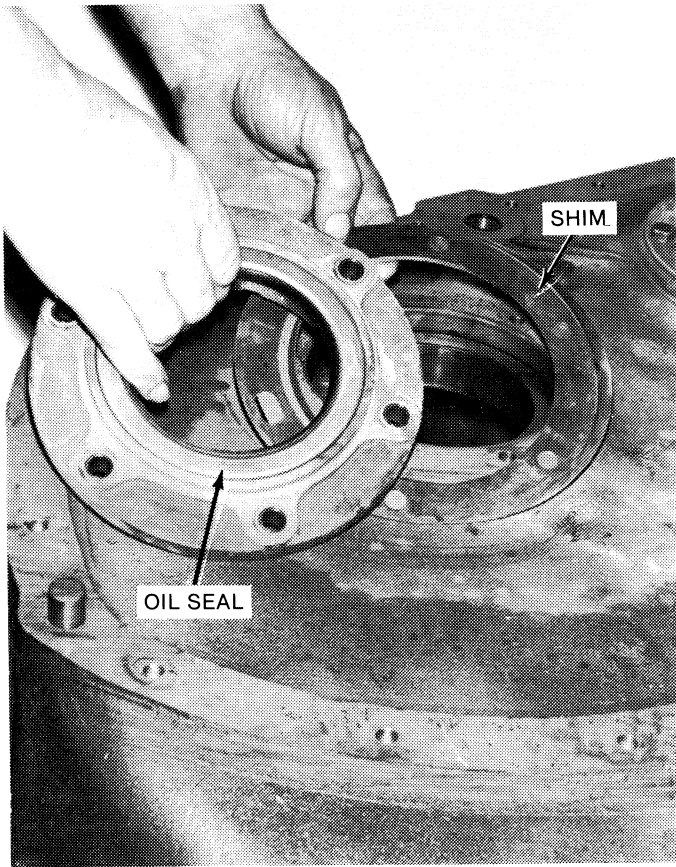

Figure 6-4. Input Bearing Retainer and Shims Removed.
9. Remove six hex-head screws (Figure 12-2, 9) and remove the input bearing retainer (10) and shims (11). See Figure 6-4.